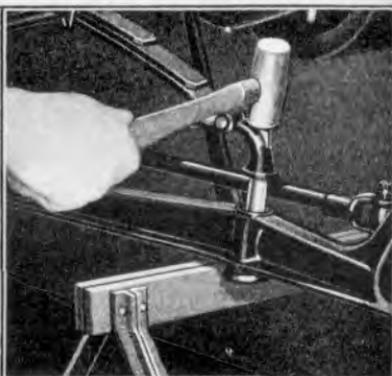

Fig. 381
- 726** To install a new front axle, position the axle on horses which are placed underneath car. Insert ends of spring perches into axle, then lower car with the chain falls until weight of car rests on axle and horses (See Fig. 381). Perches can then be seated in axle by tapping them with a lead hammer.